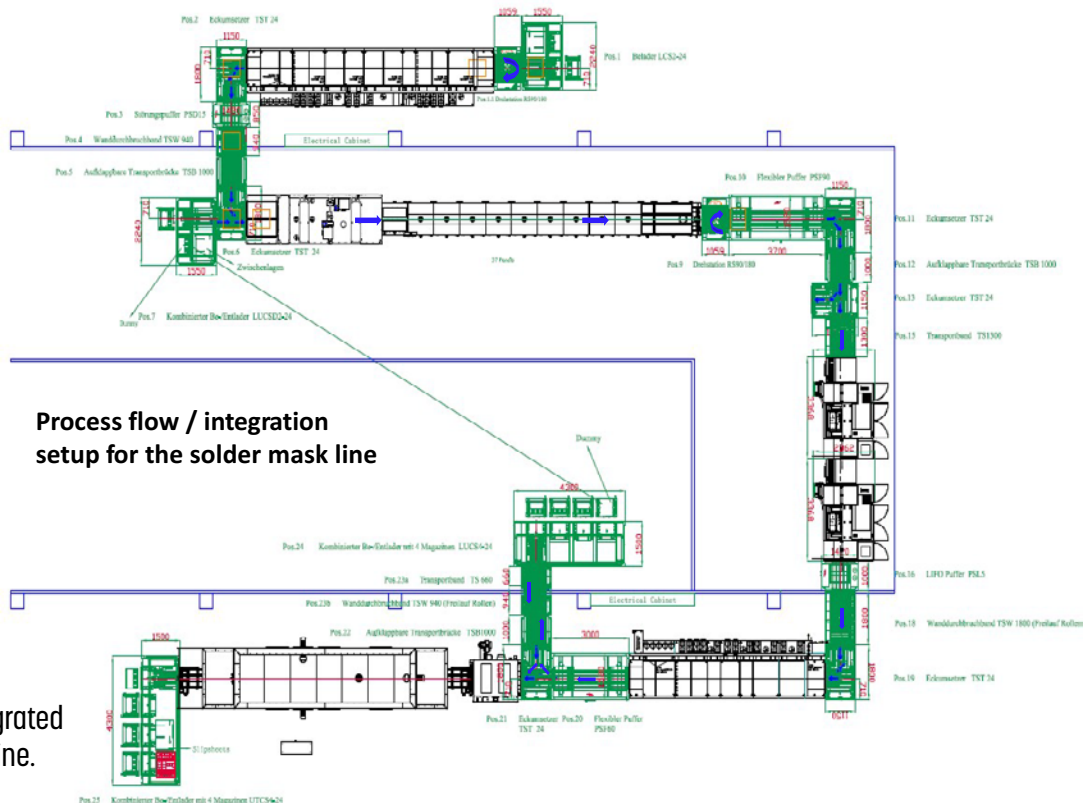

Figure 6: Integrated solder mask line.
1. Integrated solder mask line (Figures 6, 7, 8, 9)